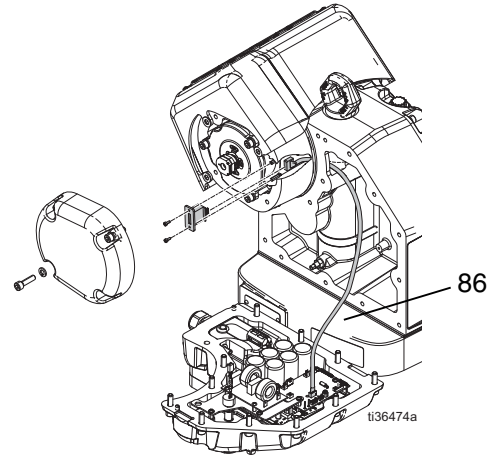

FIG. 22: Token Cable
- Token cable (86). See FIG. 22 on page 17.